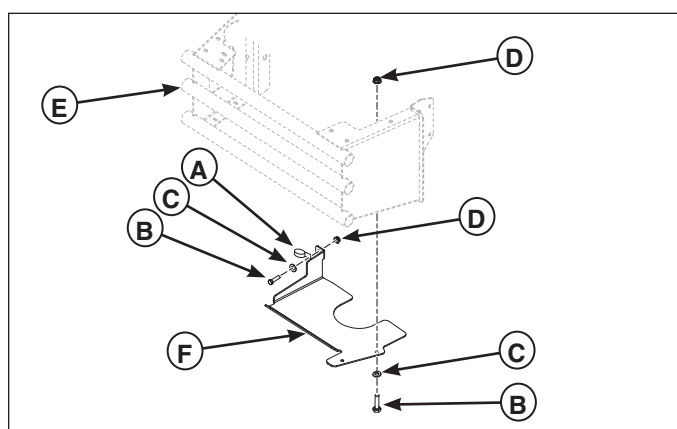

Figure 3. Removing the Lower Belt Guard
3. Remove the 5/16-18 X 3/4 bolt, 5/16 gr. 9 washer and 5/16-18 nylon flange nut that secures the hood to the lower belt guard (**F**, **Figure 3**).
7. Remove the two (2) 5/16-18 X 1" bolts, 5/16 SAE washers and 5/16-18 hex nuts from the lower belt guard (**F**) and the bumper (**E**).